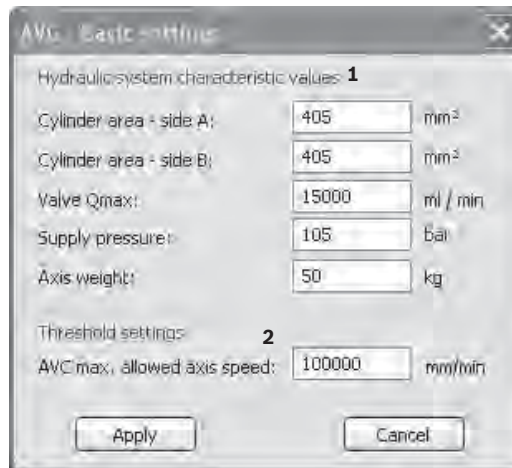

Fig. 19: Dialog “Basic Settings“
- The axis movements can be cancelled at any time by clicking “Abort measurement” in WinHPT®. See Fig. 19, button 5, on page 35.